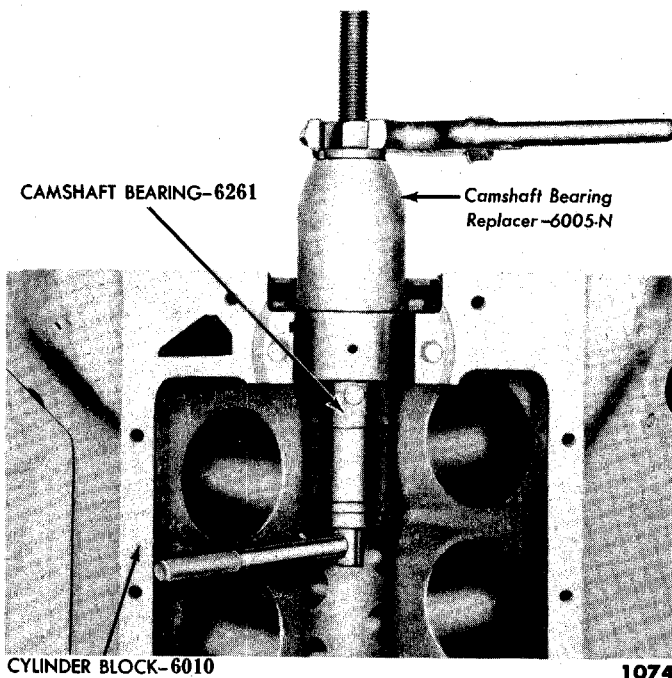

Fig. 37—Installing Camshaft Bearings
(2) **INSTALLATION.** Install the camshaft bearings with a bearing installation tool as shown in fig. 37.